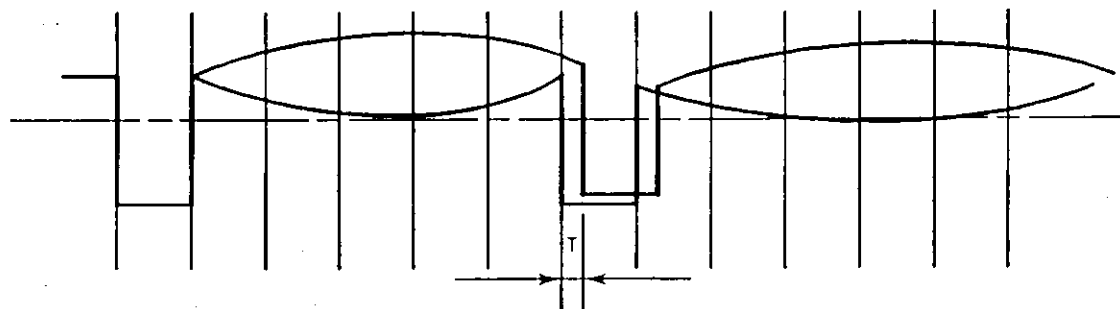

Fig. 5.7 Asymmetry Waveform
- (4) Write 1F.
- (5) A read wave form is displayed on the oscilloscope as shown in Fig. 5.7.
- (6) Confirm if it satisfies the value as shown in Table 4.1.